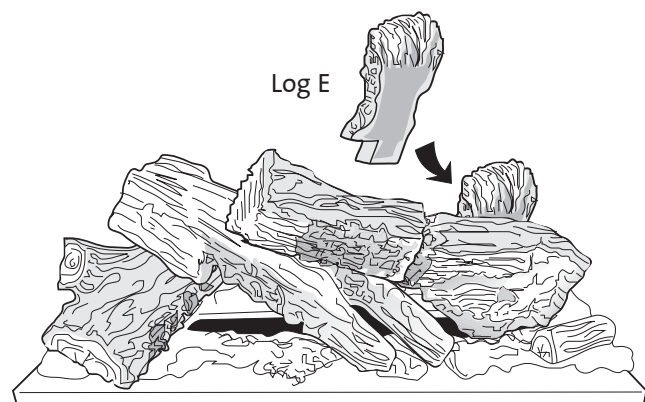

Figure 43. Engage notched Log E.
6. Position Log E to the rear of Log C. Note that the cutout at in the lower end should be oriented to the left to clear the Restrictor lever as shown in Fig. 43.